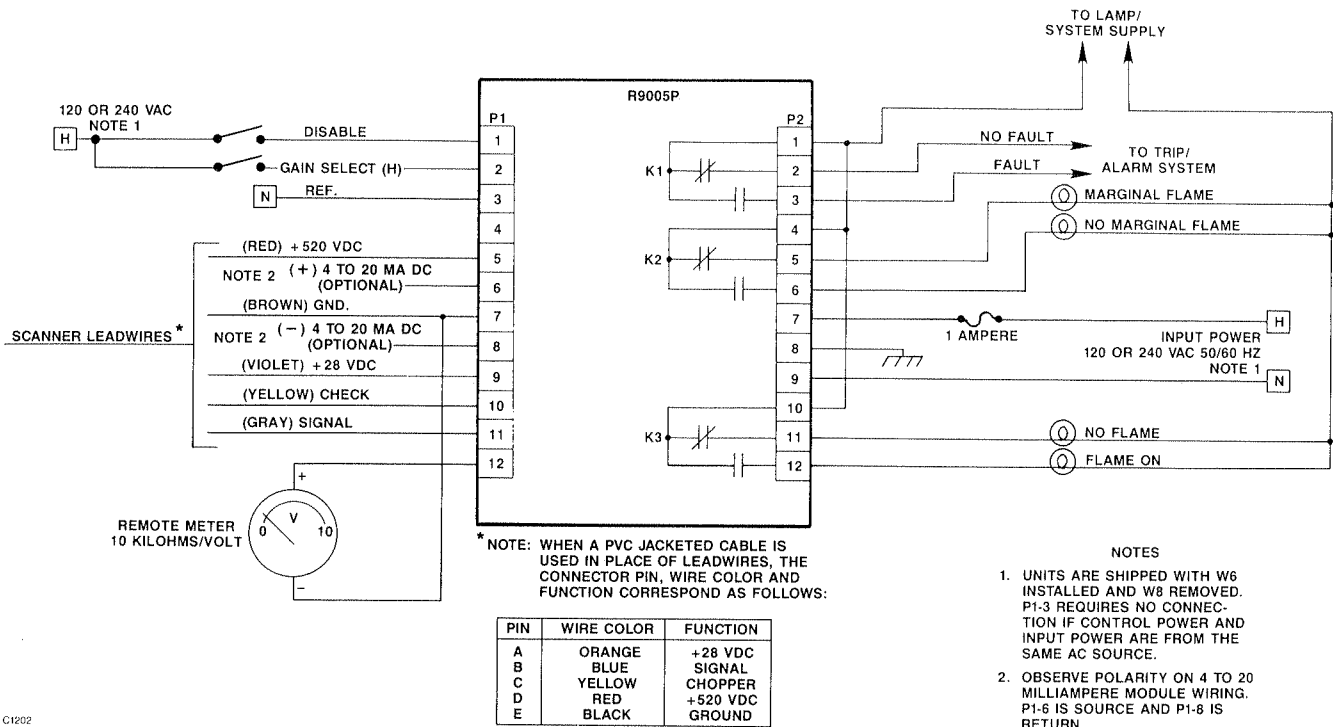

Figure 6—R9005P Electrical Connections
1. The electrical connections of the R9005P Controller are shown in Figure 6.
The R9005P has one scanner input, however, this signal can be routed through one of two gain channels. On the R9005P, connector P1, pin 2 is used to select the gain channel (see Figure 6). With no voltage applied, Gain 1 is selected. With line voltage applied, Gain 2 is selected. The two gain channels can be independently adjusted using the following procedure.